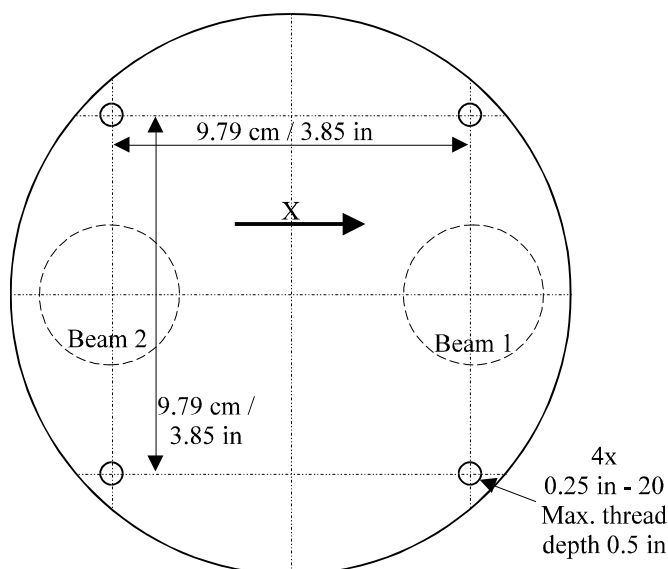

Figure 5-7. Argonaut-SL Mounting (original canister models)
- The bottom of the SL canister housing has four mounting holes (Figure 5-7). The holes have threaded inserts for ¼"-20 bolts.
- Figure 5-7 also shows the location of the acoustic beams and the SL's X-axis relative to the mounting bolt pattern. The underwater connector enters the housing at the bottom of the figure, with the vertical beam looking up.